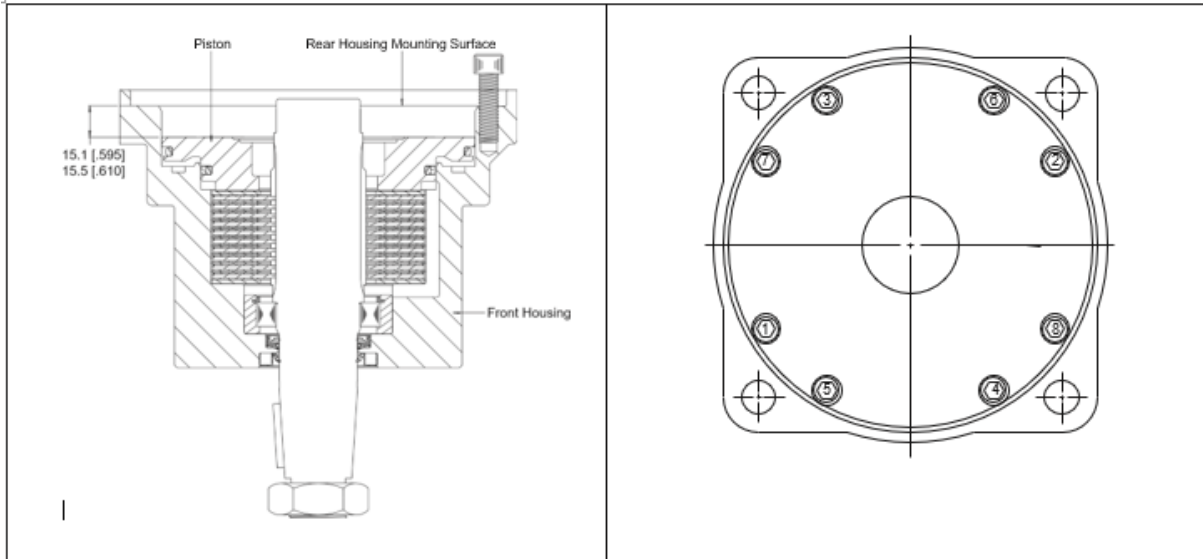

Figure 1 Criss cross pattern
- I) Install small O-Ring seal (5) and large O-Ring seal (7) into corresponding grooves in piston (20). Install small seal (6) and large seal (8) in corresponding grooves over O-Ring seals. Thoroughly coat seals and sealing surfaces of housing (15) with clean oil. With large O.D. side of piston (20) facing up, install piston (20) into housing (15) and evenly press piston down making sure not to pinch seals. Firmly press the piston down to seat all components. Then, using Figure 1 as a reference, measure the stack up of the assembly. The measurement must be between .595 - .610 (15,1 - 15,5 mm). If the measurement is not within these specifications, remove the piston (20) from the housing, remove the top disk stamping and install a .050 (1,3mm) or .072 (1,8mm) disk stamping to bring the measurement within the specifications. Reinstall the piston, firmly press it down and remeasure the stack up of the assembly to see that measurement falls within the specifications.